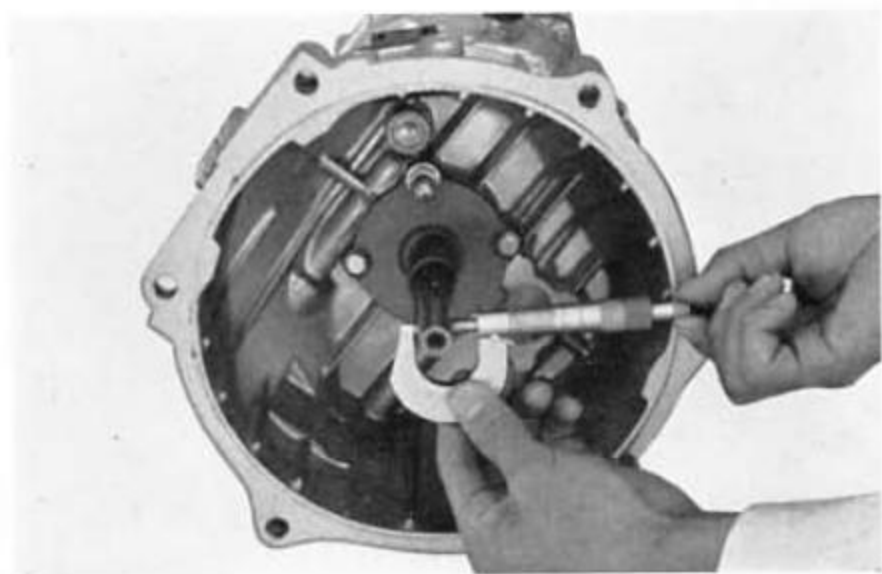

Fig. 6G-12
4. After completing the installation, rotate the shafts and inspect to assure smooth operation (Fig. 6G-9).